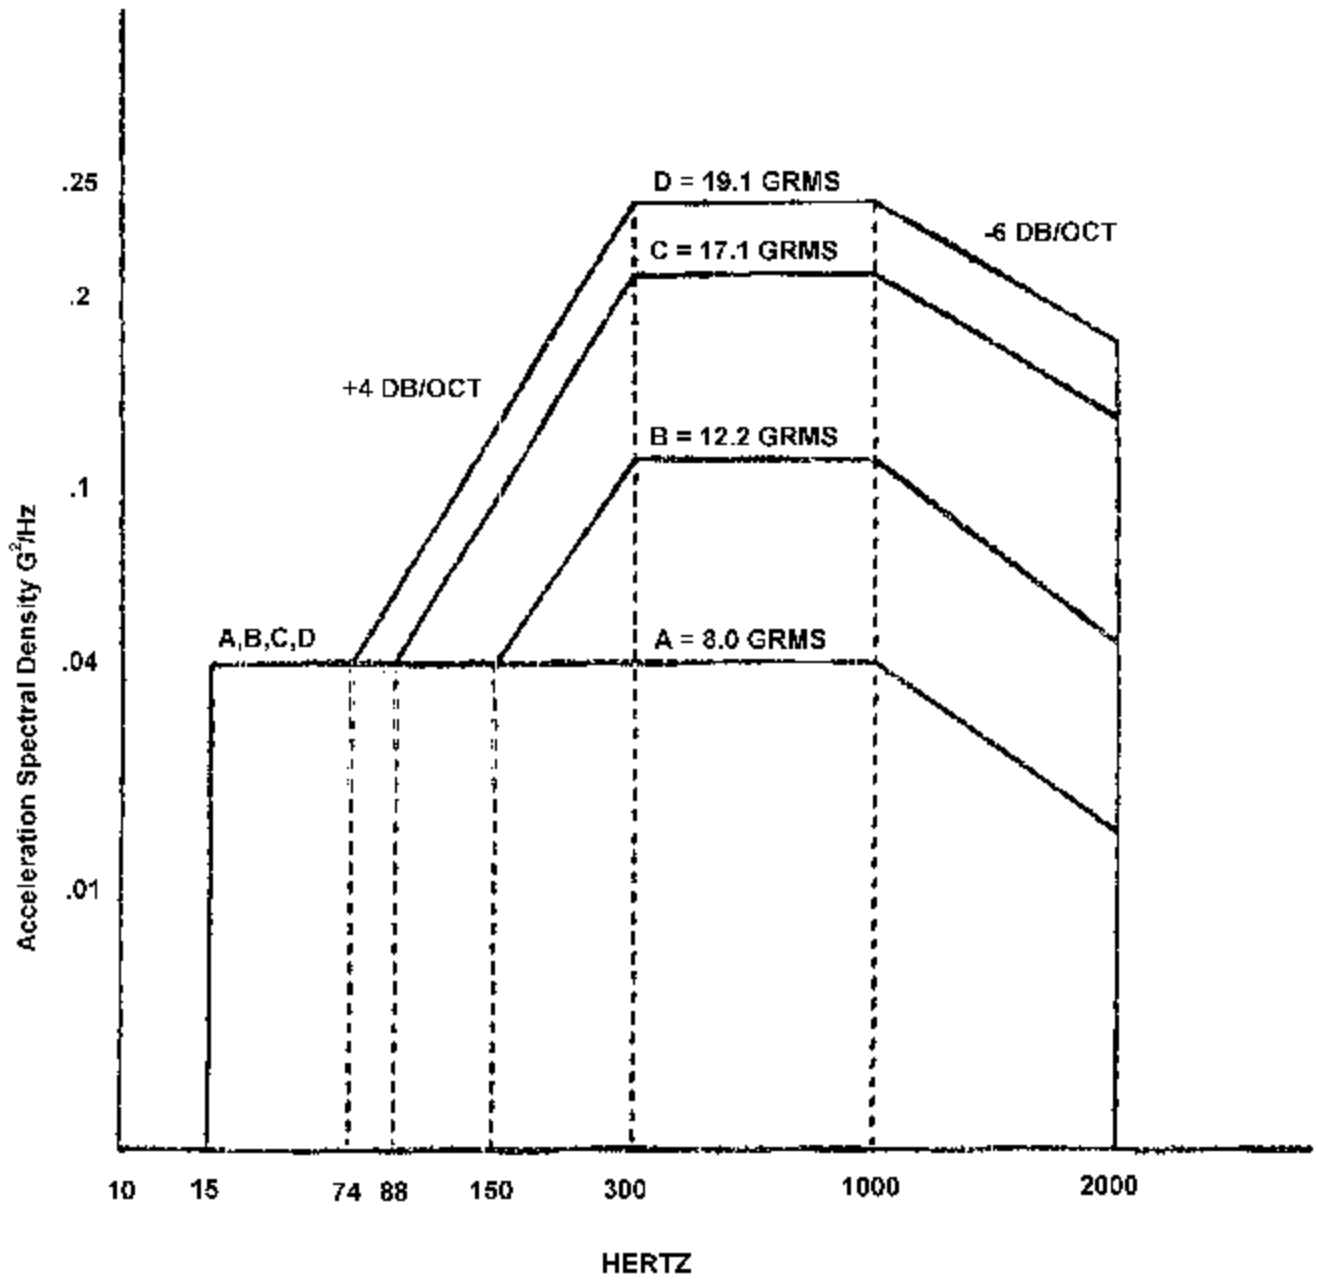

Figure 2 - Random Vibration Test Curve Selection
- 2) The test curve shall be selected from Figures 2 and 3 based on Table 2.